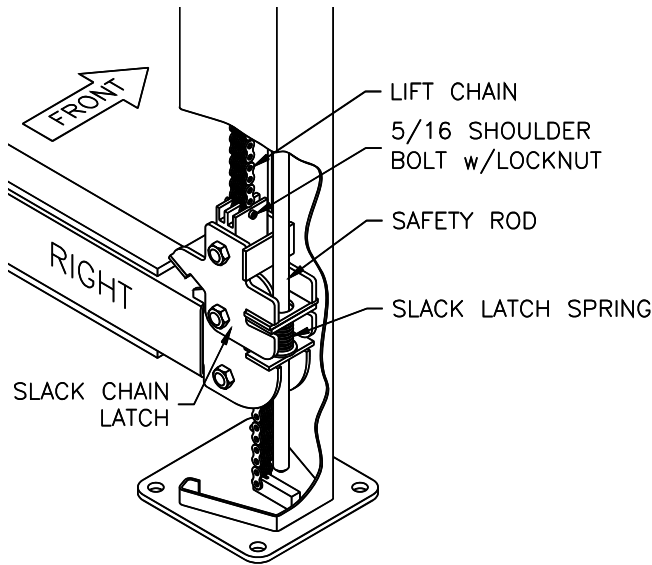

Fig 11 – Crossbeam / Column Assembly
- 15) Install one nut to the threaded end of each slack chain safety rod (leave 1 1/2" of thread exposed). Rotate and block up the right side slack chain latch to free the packing pin from the safety rod hole in the end of the crossbeam, **Fig 11**. Carefully remove the packing pin and install the slack-chain safety rod in its place. Slide the crossbeam and slack chain safety rod into the column and insert the threaded end of the safety rod up through the column top plate. Secure the rod with a second nut flush with the top of the rod and tighten the lower nut against the bottom of the top plate. Remove the latch blocking and repeat for the other crossbeam.
23) Attach both cylinder lift chains to crossbeam chain blocks using 5/16 shoulder bolt, **Fig 11**.